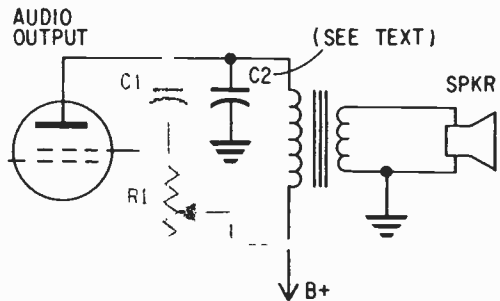

Fig. 2—Simple tone control consisting of C1 and R1 improves audio quality, helps in DX work.
**Addition** of a tone control—actually a high-cut (low-pass) filter—allows you to get a more balanced tone from the speaker. Further, since you now can reduce your set's high-frequency response, it often makes copying DX stations a little easier. The necessary components appear in color in the circuit in Fig. 2. A .05  $\mu\text{f}$  capacitor usually is adequate for C1, but if you want a little more bass you might try a .1  $\mu\text{f}$ .
Fig. 2—Circuit board and front-panel wiring. Perforated board is 8½ x 3½ in. To prevent oscillator output from getting to amplifier, put oscillator at right of board and amplifier input at extreme left. Note that shield on wires from BP2 to R11 and from C9 to R18 is grounded at R11 and R18 ends only.
The ground wire from the front-panel components to the circuit board should be connected near the second stage (Q3) as shown in Fig. 2. Note that several ground wires are connected to R10 to stabilize the circuit. Filament transformer T2 should be located away from the input end of the amplifier. In our model it is mounted on the top of the back of the U-section of the Mini-box as shown in Fig. 2. One of T2's green secondary leads should be cut short and taped.